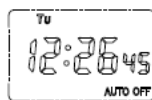

Figure 8
6.2.2.2 Press “MD” to adjust the current time. Press “◀” to select the adjusted position and press “△” and “▽” to plus and minus, so as to adjust the display time to the current time, see Figure 8.